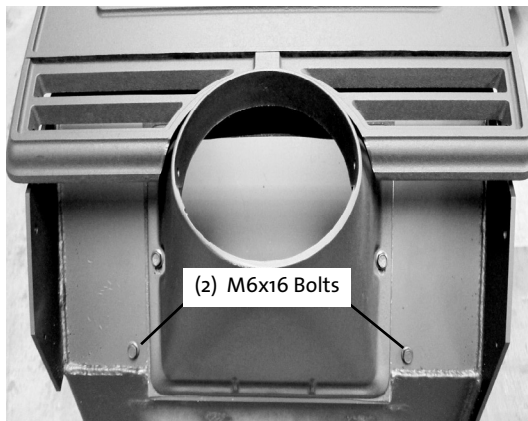

Figure 31. Remove (2) M6x16 bolts from rear
4. Use a 10mm open-end or socket wrench to remove the (2) M6x16 bolts from the secondary air manifold on rear of stove. See fig. 31.